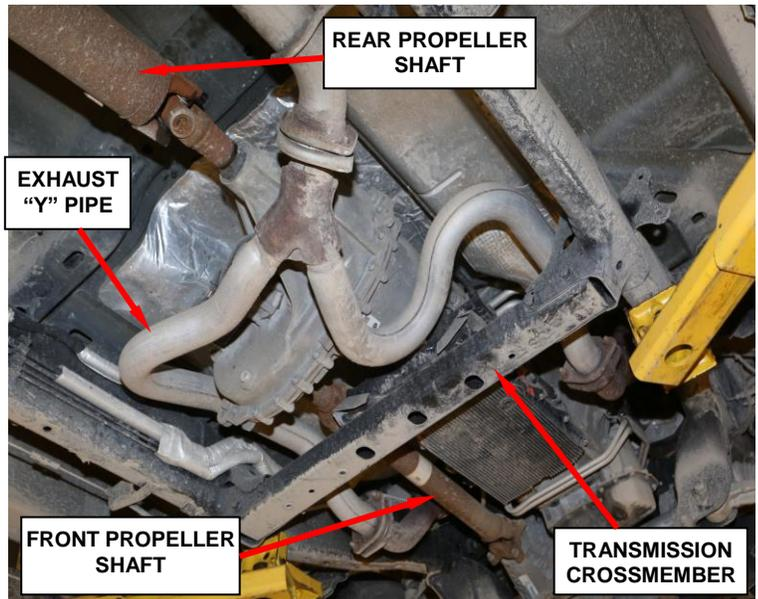
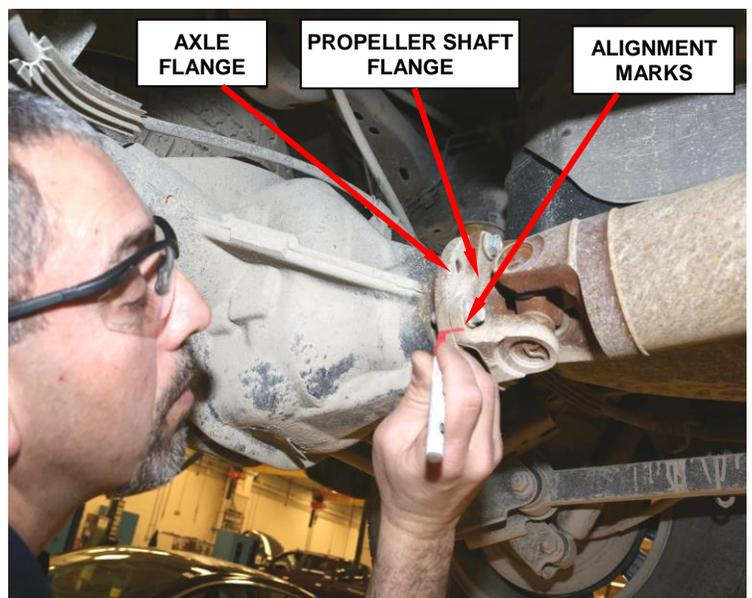

Figure 1 – Exhaust “Y” Pipe
Figure 2 – Alignment Marks
3. Remove and save the exhaust system “Y” pipe (Figure 1).
4. Place alignment marks on the propeller shaft flange and axle flange (Figure 2). Then remove and save the rear propeller shaft (Figure 1).
5. Place alignment marks on the propeller shaft flange and axle flange. Then remove and save the front propeller shaft (Figure 1).
7. Remove and save the transmission crossmember (Figure 1).
46. Install the transmission crossmember (Figure 1). Tighten the bolts to 48 ft. lbs. (65 N·m).
48. Using new bolts, align the alignment marks and install the rear propeller shaft (Figure 2). Tighten the bolts to 85 ft. lbs. (115 N·m).
49. Install the exhaust system “Y” pipe (Figure 1).